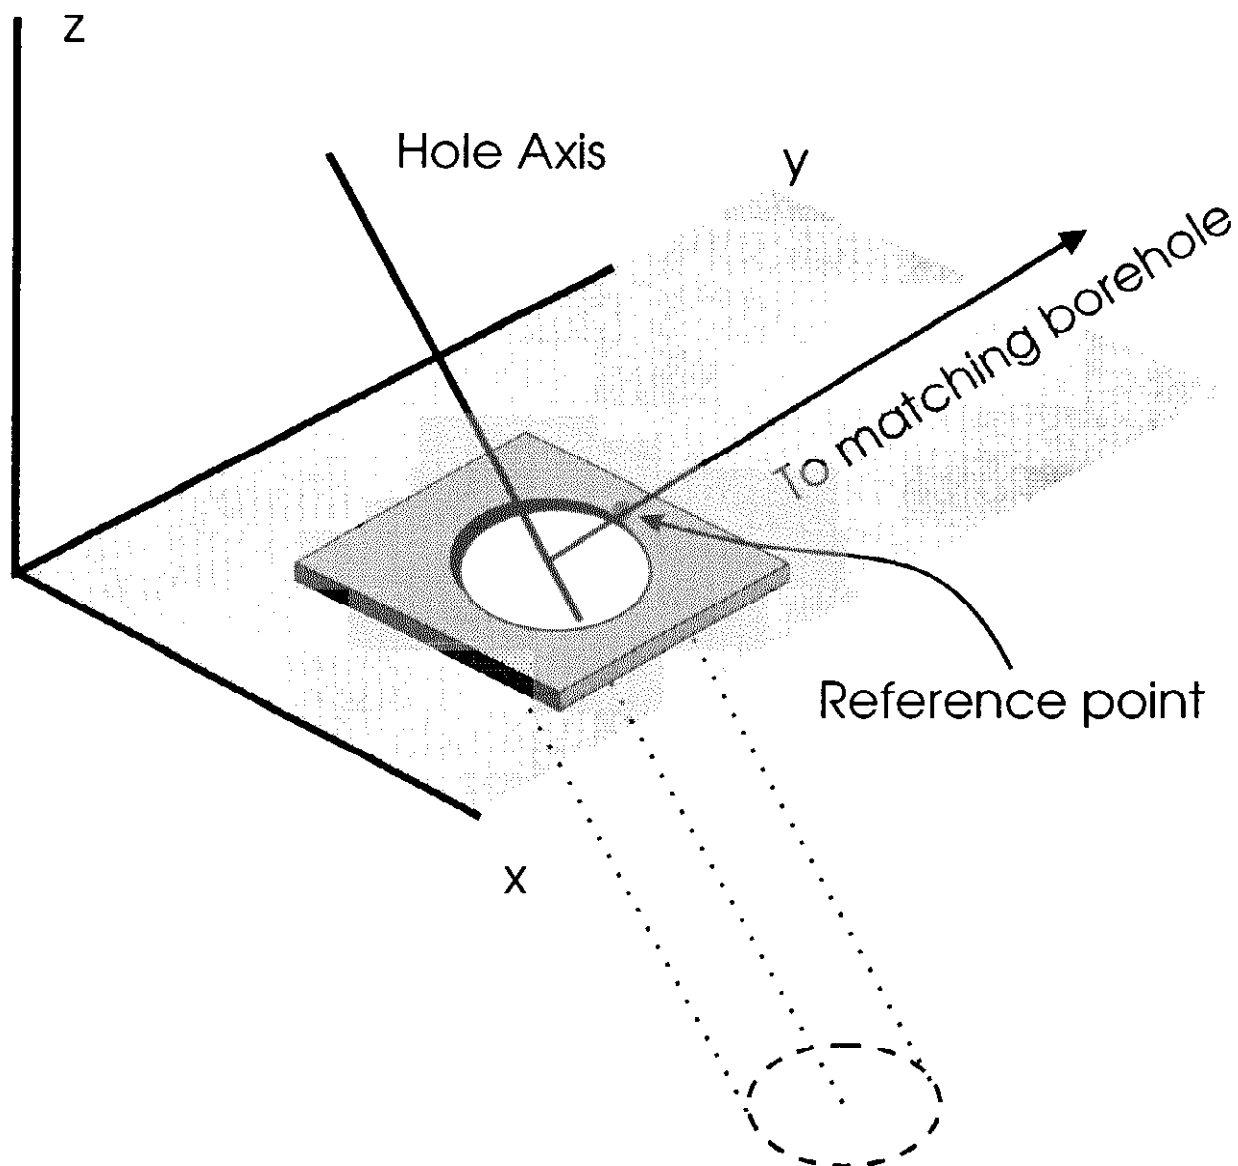

Figure 3. Orientation diagram for transducer installation.
- D. Insert the transducer-emplacement tool assembly into the borehole with the transducer head facing toward the matching receiver borehole. Match the depth mark on the insertion tool with the reference point marked on the reference plate (see Figure 3).